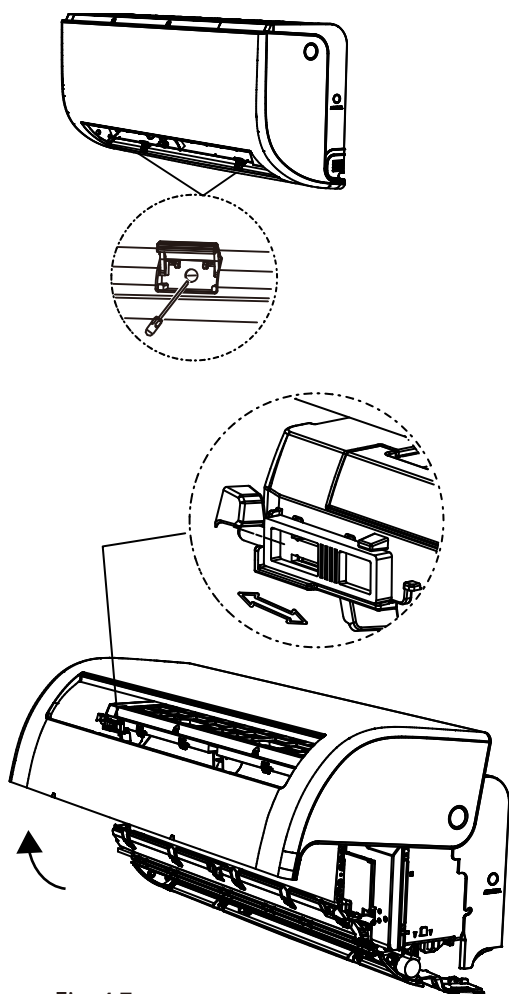

Fig. 4.7
Firstly, unscrew the two screws showed in the picture below, then open the panel, and fix the position of the panel by the latch (see Fig.4.7).
2. Open front panel of the indoor unit by loosen the screws according to picture Fig.4.7, which provide big space for wiring connection.